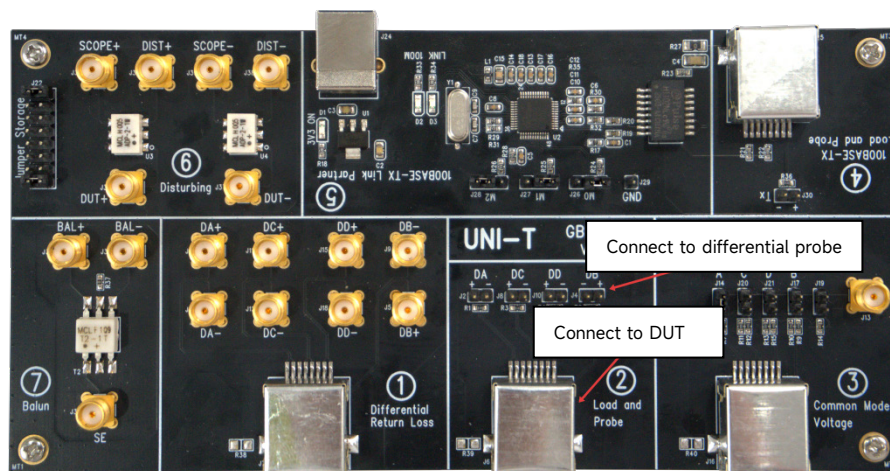

Figure 3-1 Mode 1 Test Connection Without Disturbing Signal
Set up the test environment as shown in Figure 3-1. Connect the differential probe to the DB port in Zone ②, and connect the DUT to the J6 port.
Set up the test environment as shown in Figure 3-1 or 3-2. Ensure that the oscilloscope is triggered by the Tx_TCLK signal and that the test mode is set to Mode 4 to match the test requirements.
This test fixture supports only Jtxout jitter testing. For the connection setup, refer to Figure 3-1. The oscilloscope must be triggered by the Tx_tclk signal, and the test mode should be set to Mode 2 or 3. Note that the test results are for reference only, as the specification does not define a limit for this parameter.